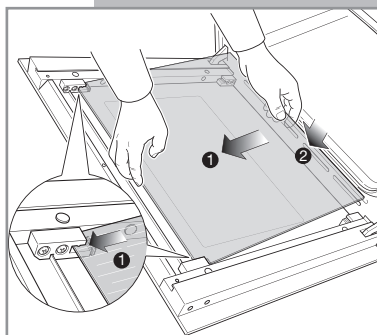
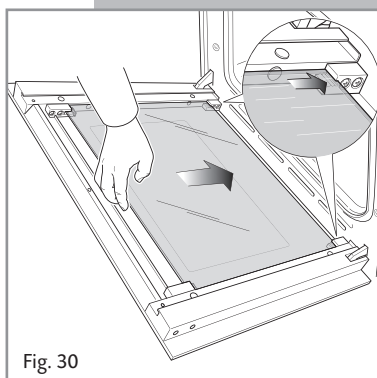

Fig. 29
Fig. 30
- Gently insert the top edge of the pane into the top clamps (arrow 1 in fig. 29), then lower the pane and insert the bottom edge into the bottom clamps (arrow 2 in fig. 29); and then slide the pane into position (fig. 30).